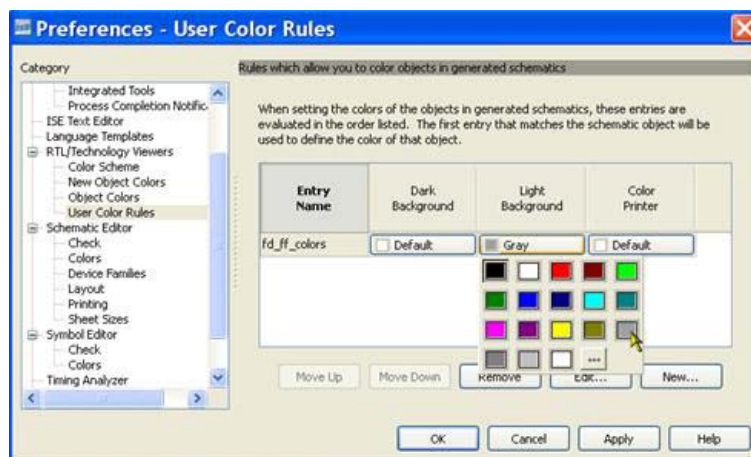

Figure 7-10: Selecting Light Background Gray
6. In the Light Background column, select **Gray** as the color (see Figure 7-10) for **fd_ff_colors**, and click **OK**.